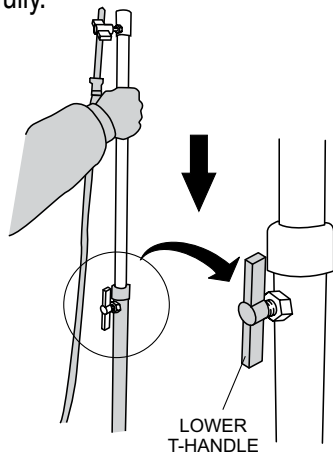

Figure 25. Lowering the Mast
1. Loosen the lower T-handle by turning handle counterclockwise (Figure 25). Push down on mast until mast is fully inserted into mast housing. Tighten T-handle fully.